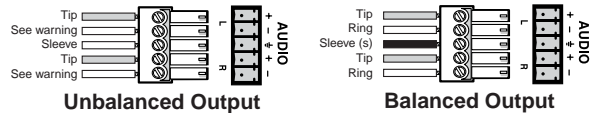

Figure 2-8 — Audio output connector wiring
- ⑦ **Stereo audio output connectors** — Connect left and right stereo audio cables between these rear panel RCA connectors and the output device's stereo audio inputs.
- ⑧ **Stereo audio 5-pole captive screw connector** — Connect audio devices, such as an audio amplifier or powered speakers, to these connectors. These 3.5 mm, 5-pole captive screw connectors output unamplified, line level audio. Figure 2-8 shows how to properly wire an output connector.